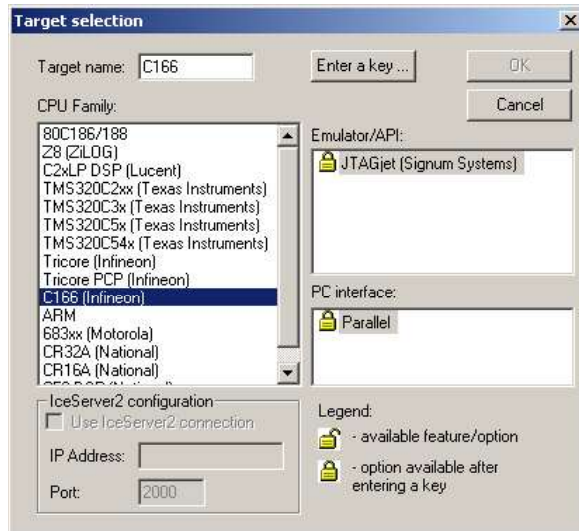

FIGURE 6 Selecting a predefined description of the target CPU.
4. Click the **Add target** button to display the **Target selection** window (Figure 6). Click the **Enter a key** button and type the license key from the Product User License Certificate.